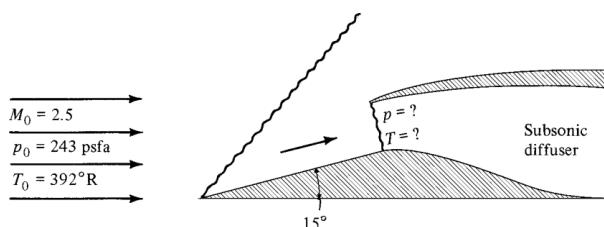

Figure P7.13
- 7.13 Pictured in Figure P7.13 is the air inlet to a jet aircraft. The plane is operating at 50,000 ft, where the pressure is 243 psfa and the temperature is 392 °R. Assume that the flight speed is $M_0 = 2.5$.